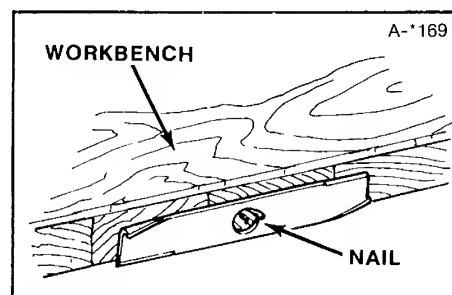

Figure 18. Balancing Blade
5. Check and balance blade. Use a balancing machine or the fixture shown in figure 18. Center the blade on a nail lubricated with a drop of oil. A balanced blade will remain level. File material off heavier end of blade until it is balanced.